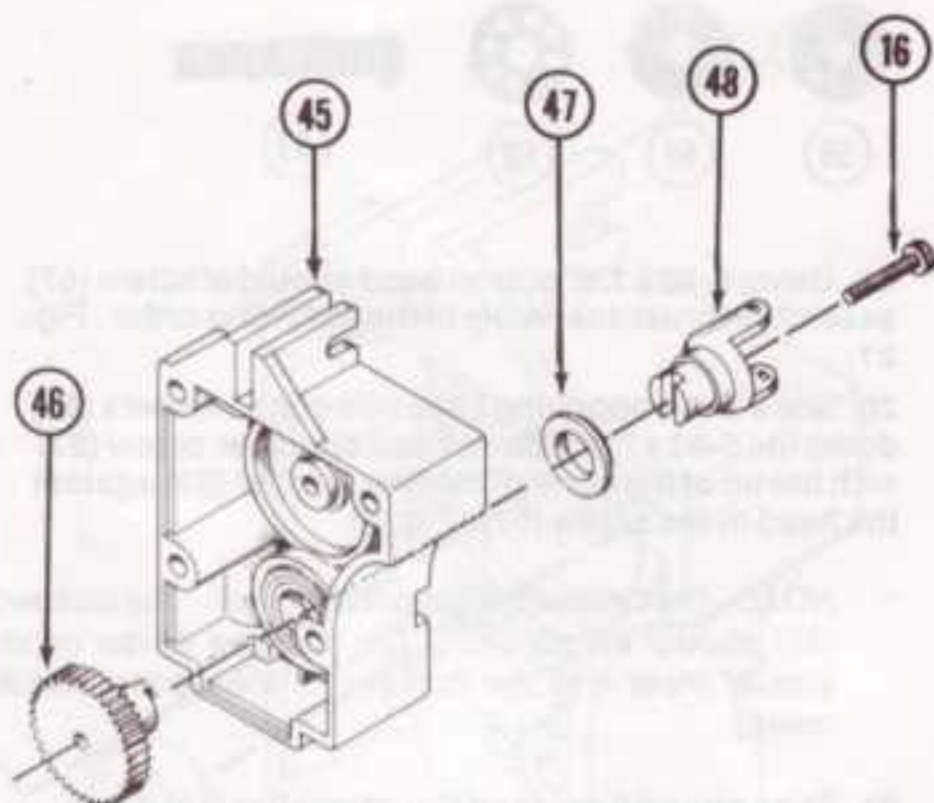

FIG. 19
5. Install output gear (46) into lower bearings in right half of gearbox (45). Fig. 19.
6. Slide outdrive spacer (47) onto U-joint outdrive (48) with the large side first. Fig. 19.
7. Install U-joint outdrive (48) into lower bearings in right half of gearbox (45) and rotate U-joint outdrive (48) until interlocked with output gear (46). Fig. 19.
8. Secure the two together with a 4-40 x 1/2" socket head screw (16) threaded in through the U-joint outdrive (48) into the output gear (46). Set aside until step 27. Fig. 19.
9. Repeat steps 4-8 for left half (63) of gearbox.